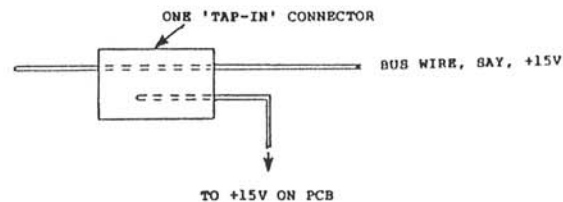

FIGURE 5. USING 'TAP-IN' CONNECTORS
B. CONNECTING MODULES. The best method is to have the power wires from each module go directly to a set of connectors which are as close as possible to the power supply. This arrangement is not, however, very convenient and no problems have been encountered as a result of using a bus distribution system. The latter may take the form of three wires (+15V, -15V and 0V) running along the back of the module housing and connected at one end to the power supply in the keyboard case. Miniature 3-pole connectors are suitable for connecting the two housings. A low cost method consists of using 'TAP-IN' connectors with the appropriate heavy gauge wire for the bus. These connectors make a branch connection, as illustrated in figure 5, by closing and then pressing together with a pair of pliers. Ensure that the connection nearest the hinge is closed first and it is good practice to test that the connection